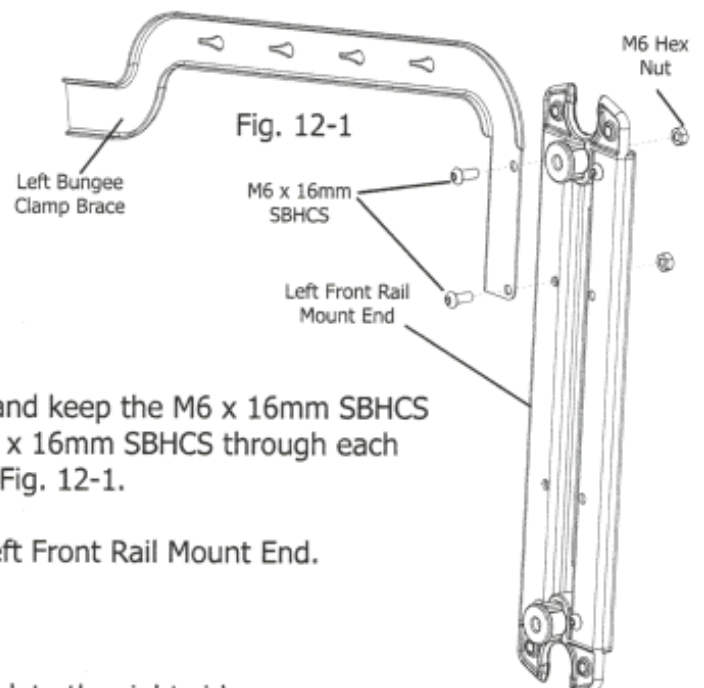

Fig. 12-1
**12-1:** First, remove the screw from the top hole and keep the M6 x 16mm SBHCS and Hex Nut for use in this step. Now slide an M6 x 16mm SBHCS through each hole in the Left Bungee Clamp Brace, as shown in Fig. 12-1.